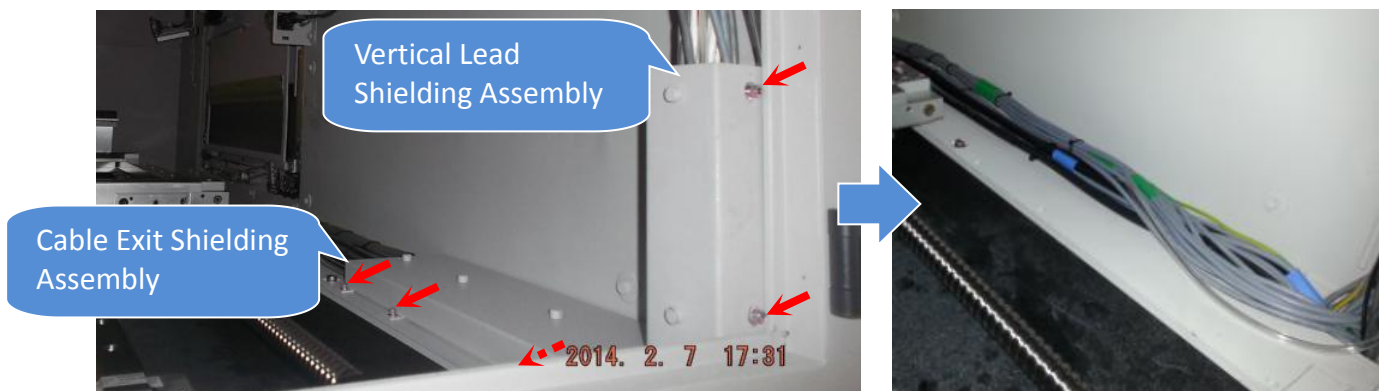

Figure 21 Shielding Assembly Removal
25. Open Rear side door & loosen 5 x Screws. Remove "Vertical Lead Shielding Assembly" and "Cable Exit Shielding Assembly" as below Figure 21